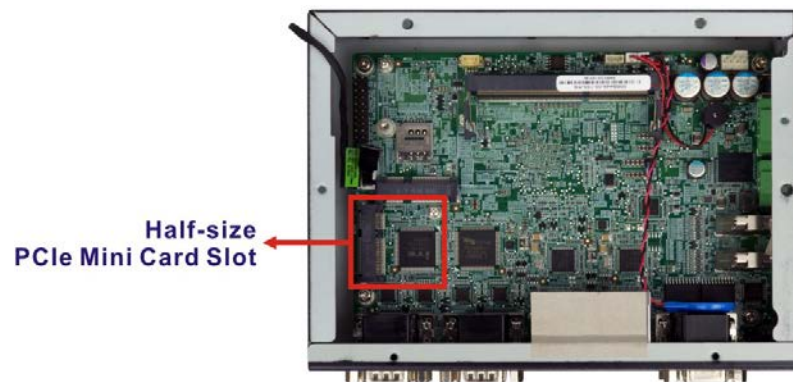

Figure 3-14: WLAN PCIe Mini Card Slot Location
Step 3: Locate the half-size PCIe Mini slot (Figure 3-14).